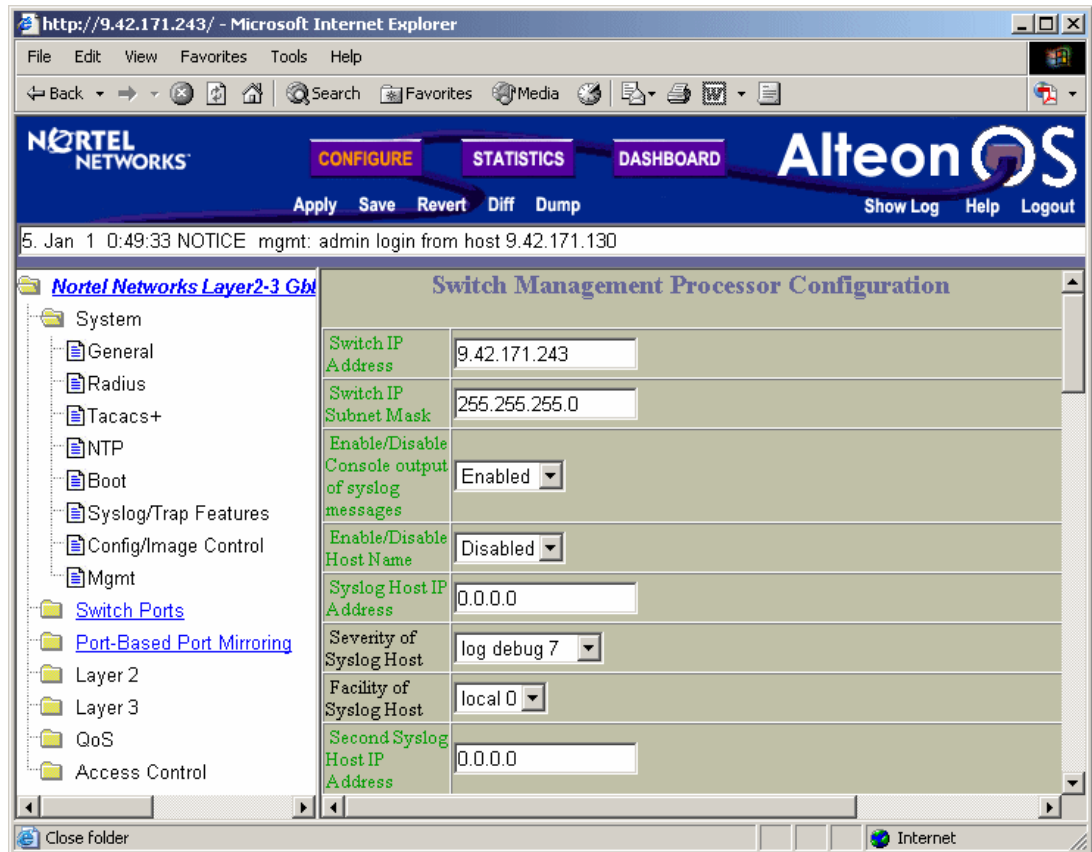

Figure 5-8 Switch information using BBI
4. Click the icon next to General in the drop-down list under System. On a window similar to Figure 5-8, you see options, such as IP Address and Network Mask fields, that can be configured on this page. Other options on this page include date and time settings, syslog settings (if you have a syslog server), and SNMP settings.